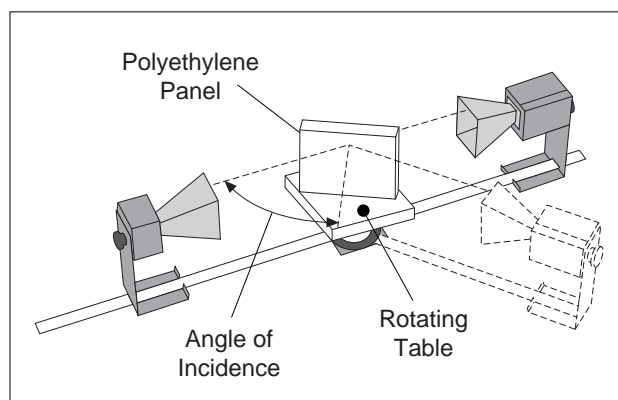

Figure 11.1 Equipment Setup
- ① Arrange the equipment as shown in Figure 11.1, setting both the Transmitter and the Receiver for horizontal polarization (90°).
- ② Adjust the Panel so the angle of incidence of the microwave from the Transmitter is 20° . Rotate the Goniometer arm until the Receiver is positioned where it can detect the maximum signal reflected from the Panel. Adjust the Receiver controls for a mid-scale reading, and record the meter reading in Table 11.1.